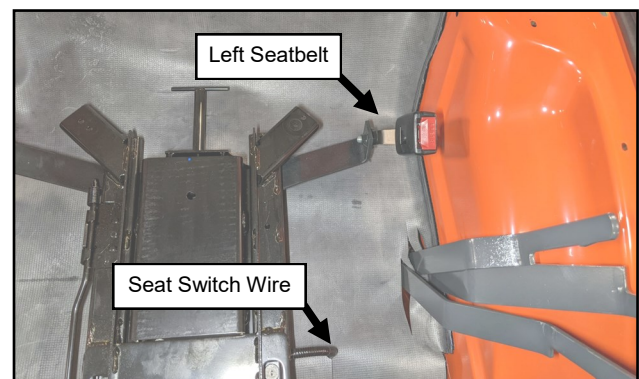

Fig. 19.4 (Position Left Side)
- 19.4** Work the filler down to the bottom of the control levers and underneath the seat belt. See Figure 19.4. Align the front of the filler around the seat switch wire. Do not stick Velcro yet.